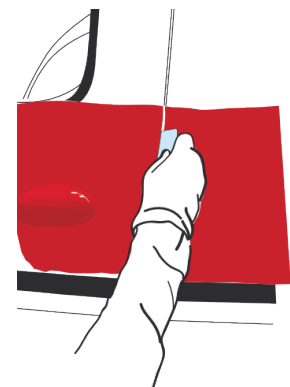

Figure 26
- To finish, run the squeegee over the cut. Incline the squeegee towards the thin edge. (FIG. 26)